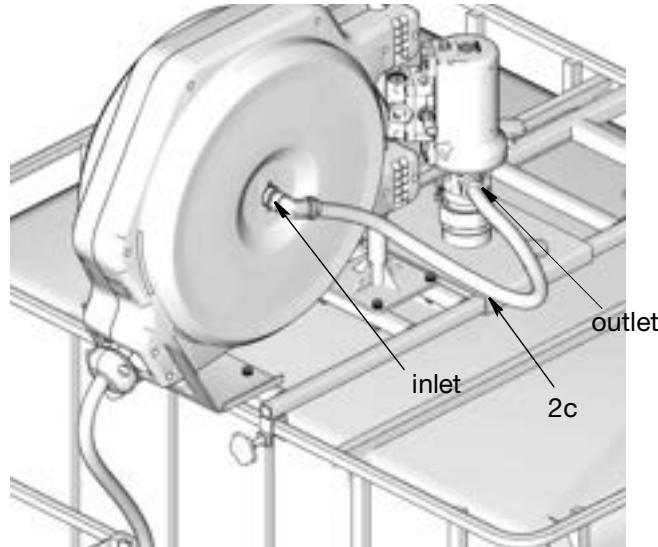

FIG. 19
5. Connect the flexible fluid hose (2c) between the pump outlet and the reel inlet (FIG. 19).